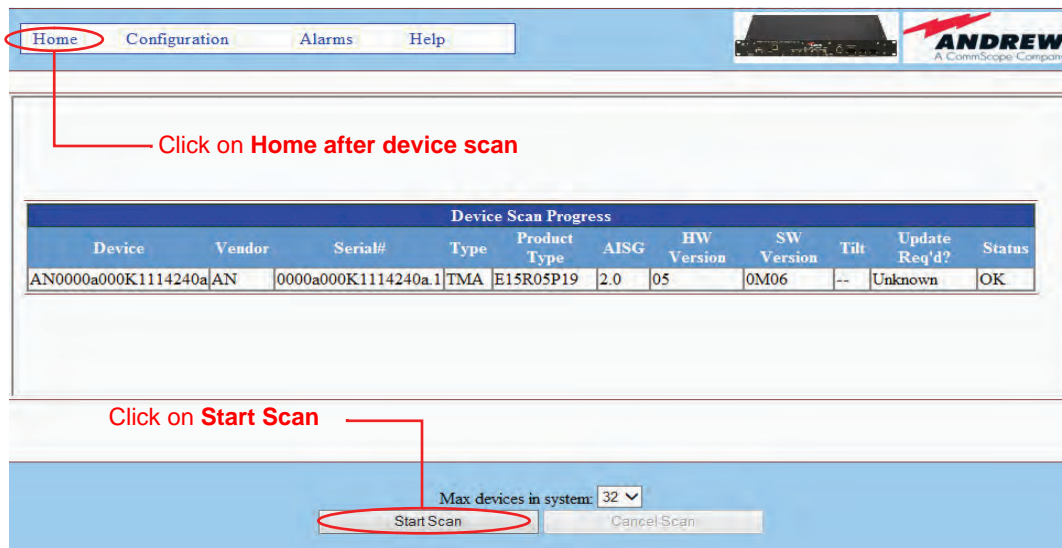

Figure 23-2. Device Scan finds a TMA.
2. Click on **Start Scan** to activate the device search. Figure 23-2 shows a completed device scan.
3. Click on **Home** to return to ATC300 controller's main screen (Figure 23-2).